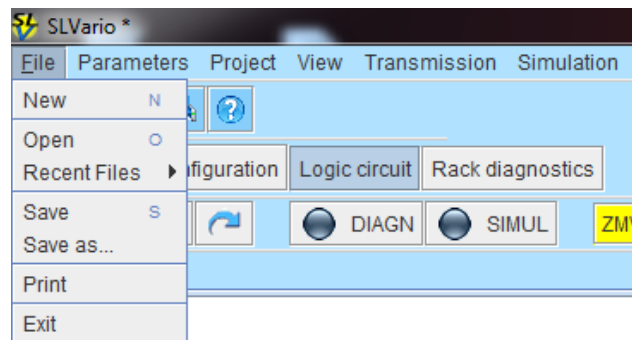

Fig. 2-1
- ▶ Start a new application. „File New“ (Fig. 2-1)